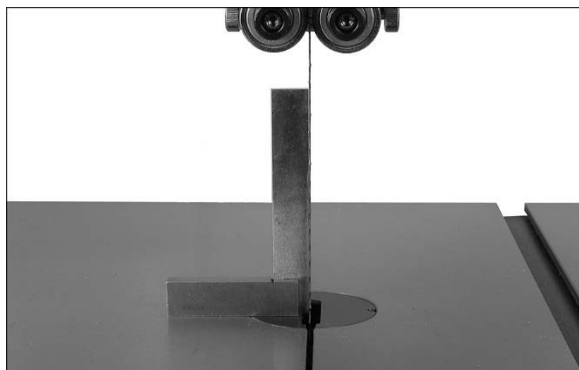

Figure 7-5
2. Use a square (Figure 7-5) placed on table and against blade to verify that table is 90 degrees to blade.
3. If an adjustment is necessary, loosen lock handle (D). Tilt table until it is square to blade; then retighten lock handle.
4. Loosen lock nut (F₁) and turn table stop bolt (F) until it contacts table. Tighten lock nut to hold table stop in place. When tightening the nut hold the table stop bolt in place with a wrench to prevent movement.